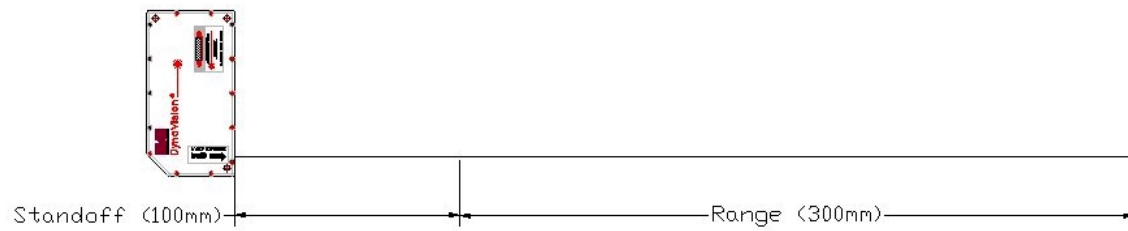

Figure 2
3. Position a suitable target (e.g. a cardboard box or wood block) within the measurement Range of the DLS2000 (see Figure 2.)
Calibration of the DLS2000 is relative to the reference face of the sensor. The minimum distance the target can be from the reference face of the sensor is the standoff distance (see Figure 2.).